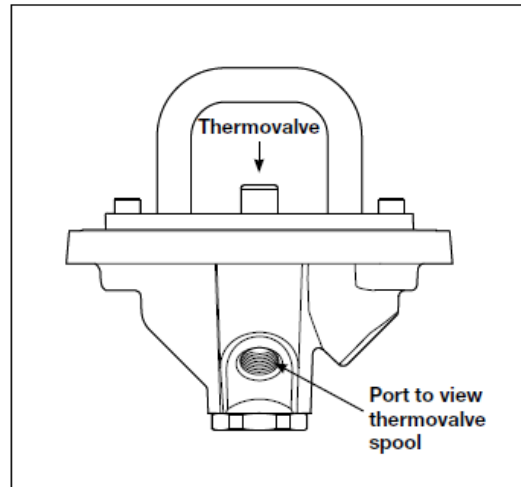

Figure 1
**Step 4:** While looking into the fluid port of the bottom plate (see Figure 1), run cold water over the thermovalve for 30 seconds, then run hot water over the thermovalve to determine whether the thermovalve spool is opening and closing.